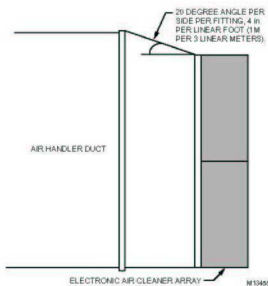

Fig. 4. Changing duct size gradually to minimize turbulence.
Use transitions when the duct opening is a different size than the air cleaner array. Gradual transitions reduce air turbulence and increase efficiency. See Fig. 4. Limit the duct change to no more than 20 degrees or four inches per linear foot (one meter per three linear meters).
- ☐ Install a transition to the air handler duct if the opening is different than the opening of the air cleaner array (see Fig. 4).